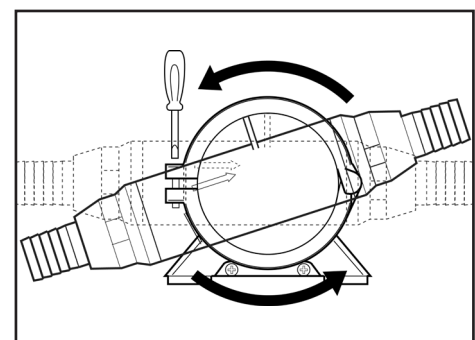

Figure 2 - Rotating Pump Head
- The pump head may be rotated to suit the hose connections; this is achieved by loosening the screw which holds the clamping ring and rotating the pump head (Fig 2).